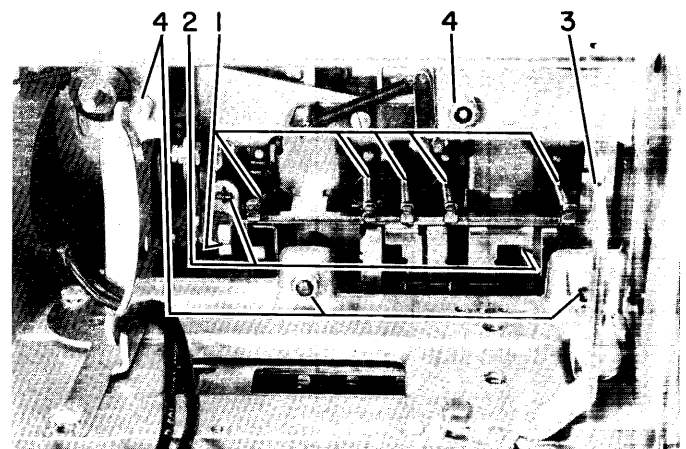

Figure 31. Differential Plate Removal
12. Remove all latch springs (#1, Figure 31).
13. Remove all latch links (#2, Figure 31).
14. Remove the left-hand motor mount (#3, Figure 31).
15. Remove the four differential mounting nuts (#4, Figure 31).